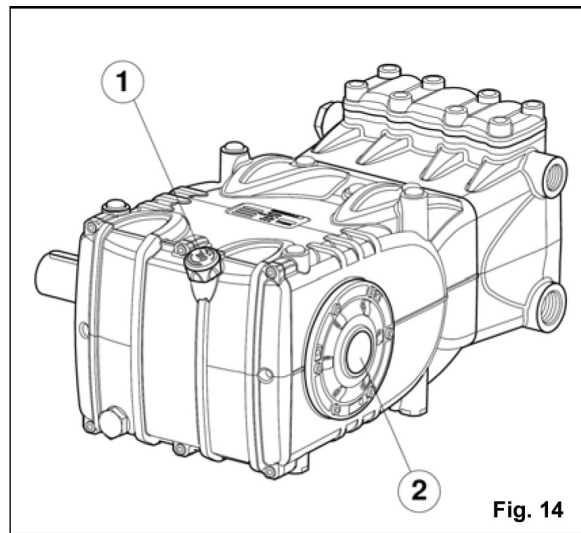

Fig. 14
5. The pump's oil level must be verified using the correct dipsticks (position 1, fig 14) and visually verified with the level indicator (2, fig. 14).